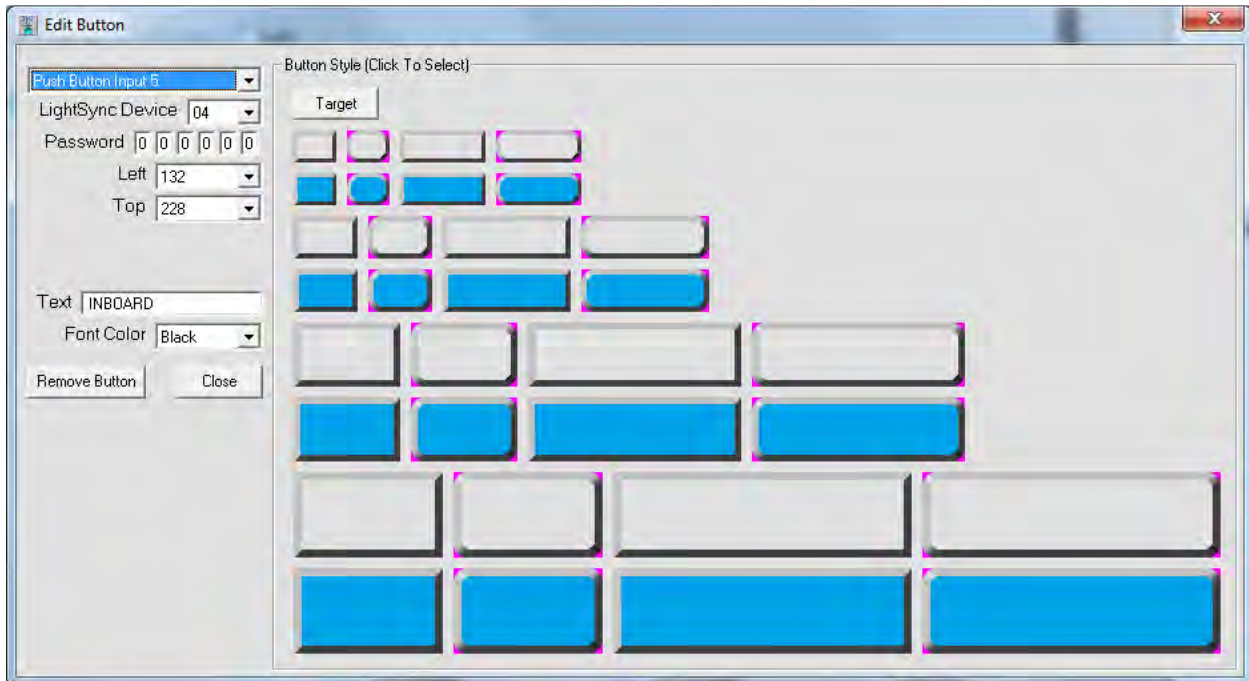

Figure 4 Edit Button Screen
2. Select one of the 32 buttons from the library available on the Edit Button screen as shown in Figure 4. You may also select the Target control button option, which is a button without graphics and can be made to any size. With this option, custom button graphics can be incorporated into the background to give your button any look desired. This can also be used on a screen where the entire screen is to be used as a single navigation button (From a HOME company logo screen to the First control screen)
- Select one of the 32 buttons from the library available on the Edit Button screen as shown in Figure 4. You may also select the Target control button option, which is a button without graphics and can be made to any size. With this option, custom button graphics can be incorporated into the background to give your button any look desired.